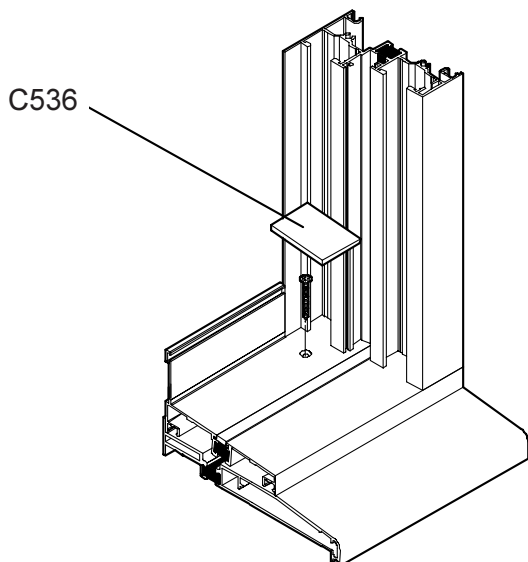

Fig. 14 - Fitting Frame to Add on cill
- If the frame is to be installed onto a Monaframe cill (A993 or A994), place the VSW frame onto the cill against the upstand and clamp them together. Before clamping, run a small bead of silicone sealant along cill upstand in corner. Drill a 4.5mm dia clearance hole into the cill about the corner where it is at a position to be hidden by the foam buffer pad (C536), and countersink to 7.5mm dia. Drill thro' this, a 3.5mm dia. tapping hole into the add on cill, thro' both webs of the cill. Fix the frame and cill using No.8 x 1 1/4" Pozi CSK Hd screws in both corners. For larger windows a central fixing may be required. (See Fig 14)